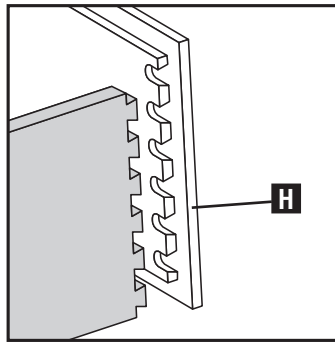

Fig. G1
Rabbeted half-blind dovetails are often used to create drawer fronts (H) Fig. G1 that have a rabbeted (or lipped) edge.
- A drawer front board that is **rabbeted** as shown in Fig. G1.